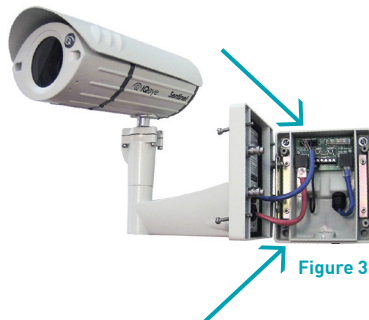

Figure 3
2. Unplug the two camera-side connections from the back box (Figure 3).